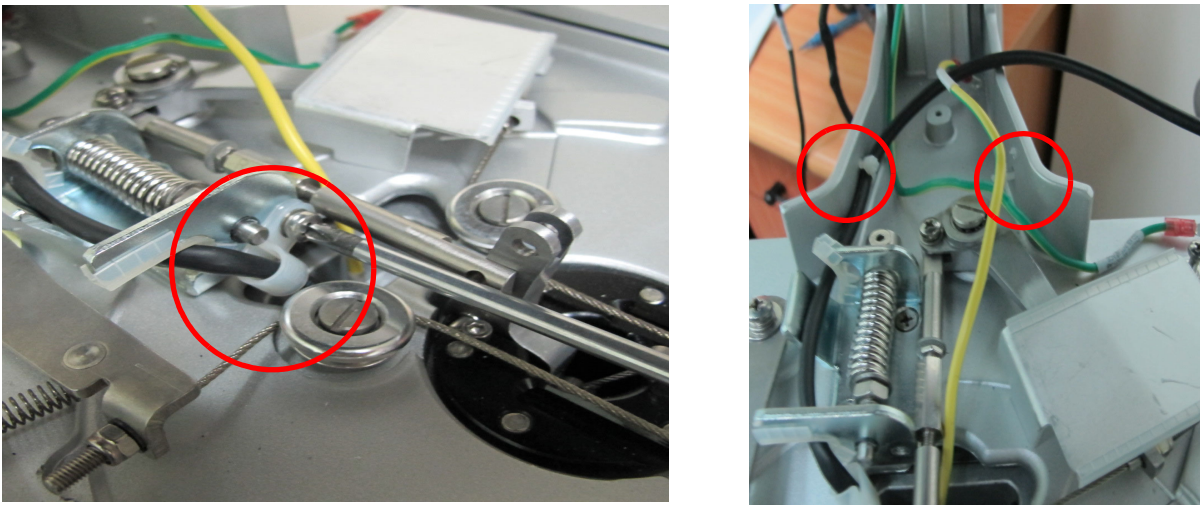

Figure 8-116 Remove Securing Clip and Tie-Wraps on OPIO Platform
11.) Remove the cable securing clip and cut the tie-wraps - see Figure 8-116 below.
- 1.) Return the cable tie-wrap to the upper section of the lower arm - see Figure 8-116 on page 8-90.